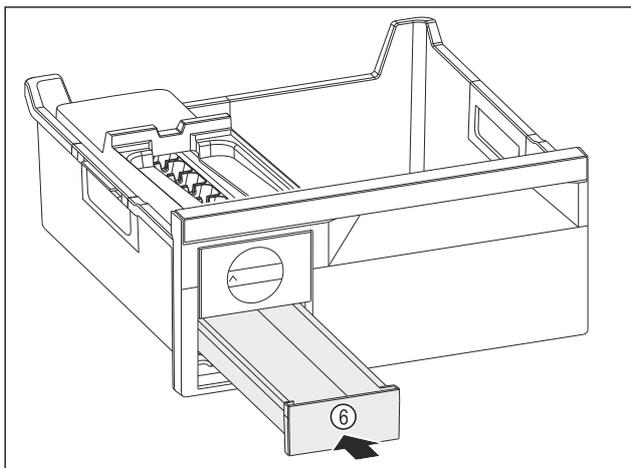

Fig. 188
- ▶ Insert the ice cube tray Fig. 188 (6).